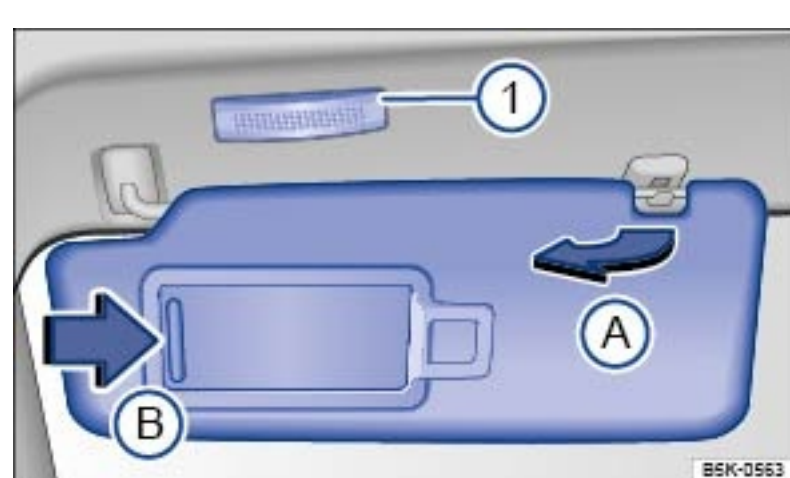

Fig. 86 In the headliner: Sun visor.
- Lift it out of the retaining clip → Fig. 86 ① and swivel it over toward the door.
A vanity mirror is behind a cover in the sun visor. Your vehicle may also be equipped with a light → Fig. 86 ① that comes on when you slide the cover ② open.